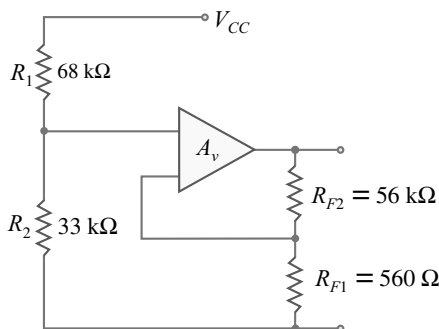

Fig. 11.17
**Example 11.17.** Fig. 11.17 shows negative voltage feedback amplifier having open-loop voltage gain of 100,000. When negative feedback is not used, the input impedance of the amplifier is 1 k $\Omega$ . Find the input impedance of the circuit with negative voltage feedback.